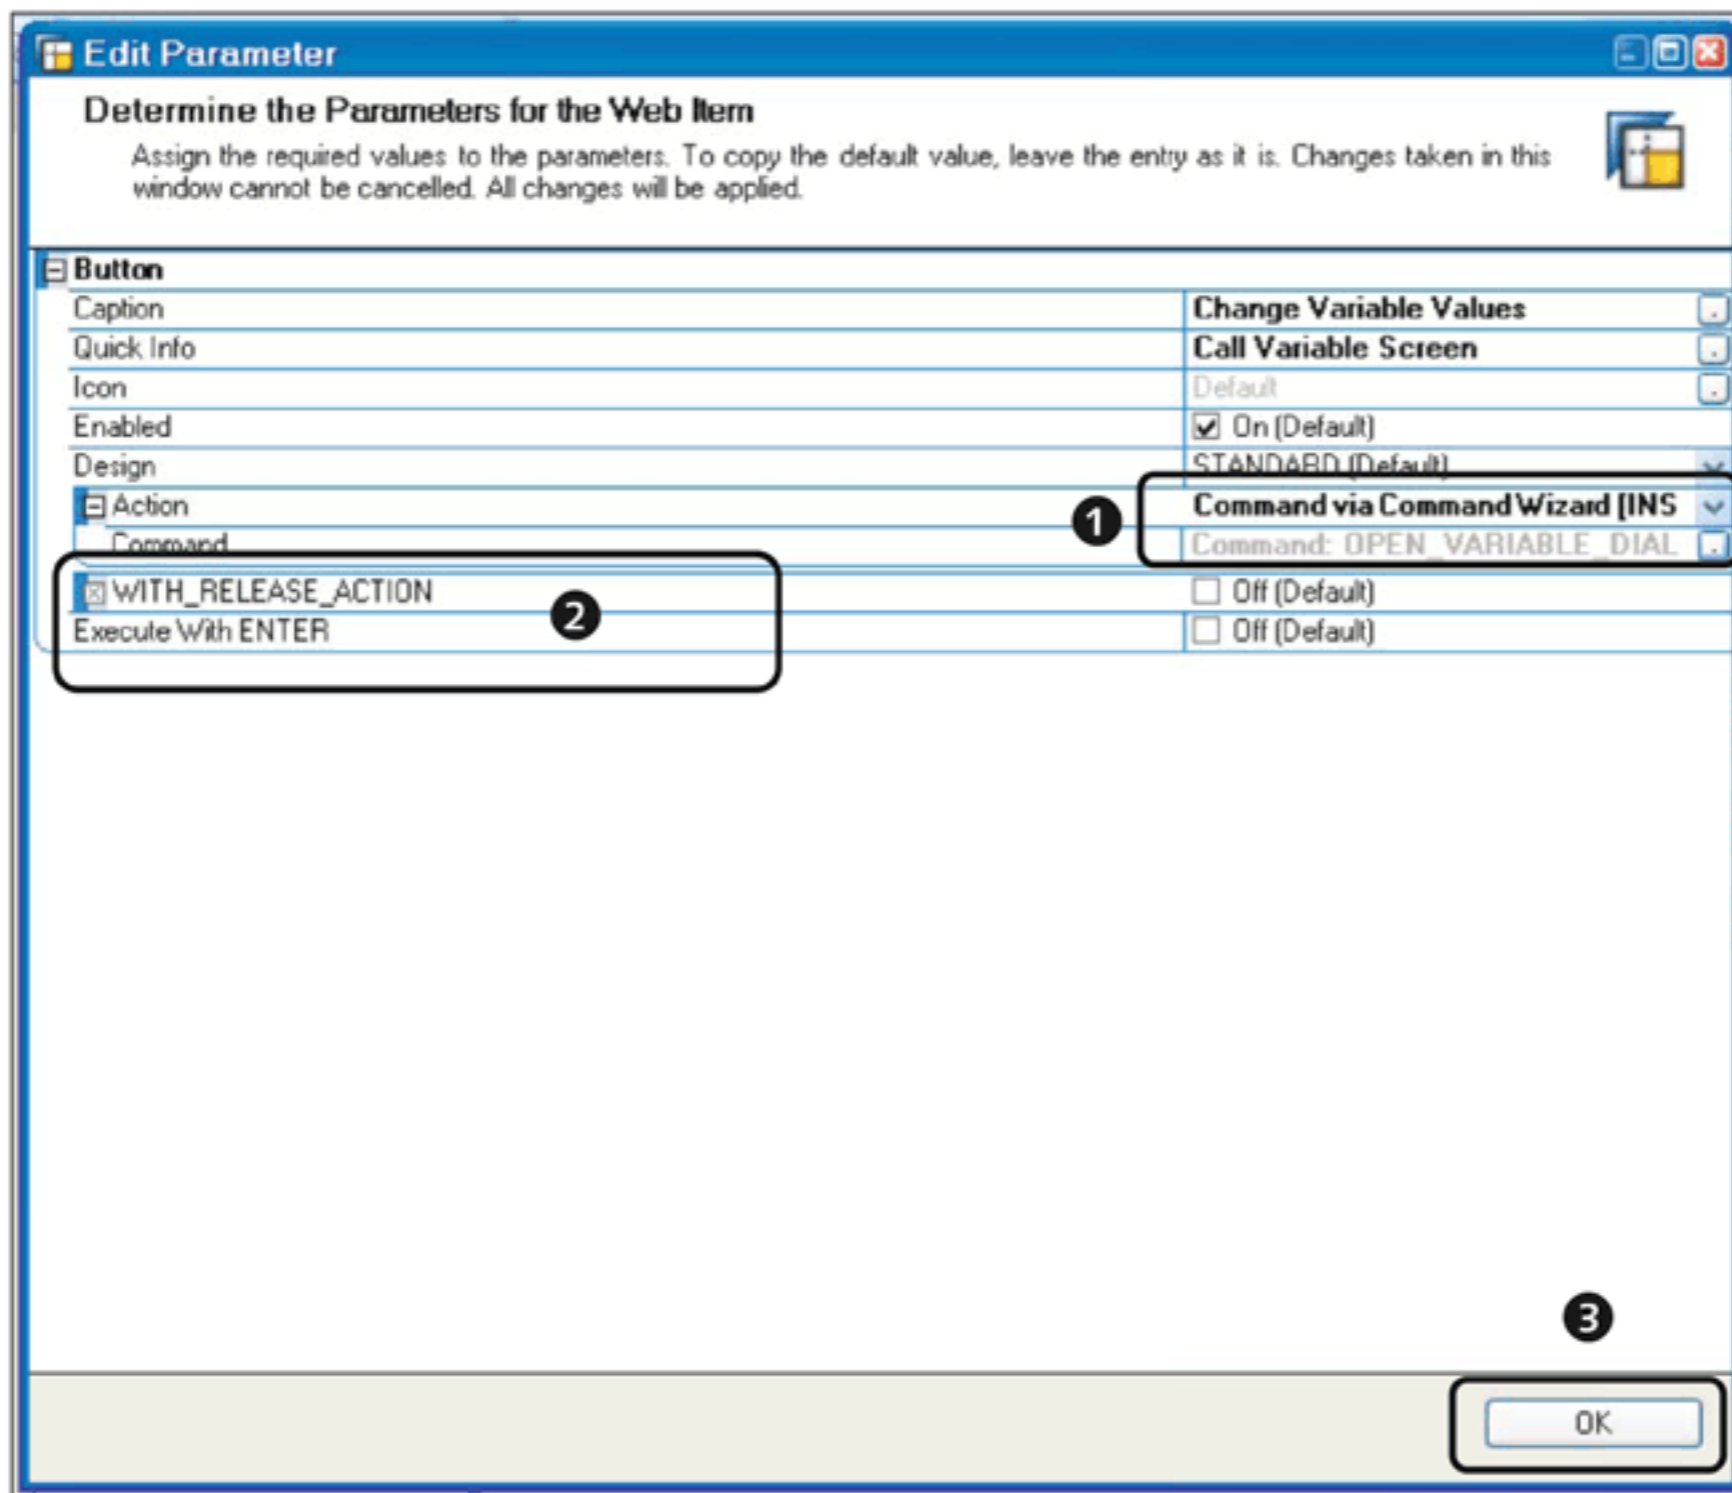

Figure 11.14 Complete Button Settings
You can also add more than one command to the same button so that a sequence of commands is executed when the button is clicked. Click on the NEXT COMMAND button (6) to add new commands to the button. When finished, click on OK (7), and return to the button definition screen (see Figure 11.14).
The selected command is now linked to a button (1 of Figure 11.14). If you want a specific command to be executed when the user presses the key, then check the setting EXECUTE WITH ENTER in the button configuration (2).